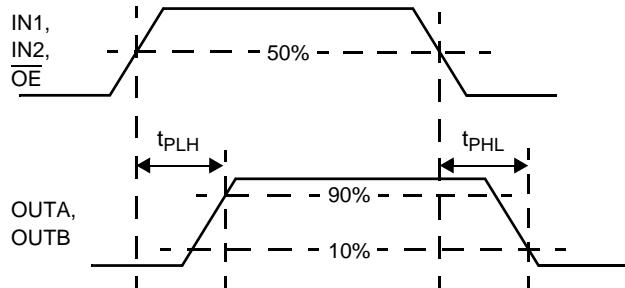

Figure 4.  $t_{PLH}$ ,  $t_{PHL}$ , and  $t_{PZH}$  Timing
15. Load of Output is  $8.0\ \Omega$  resistance. see figure 4